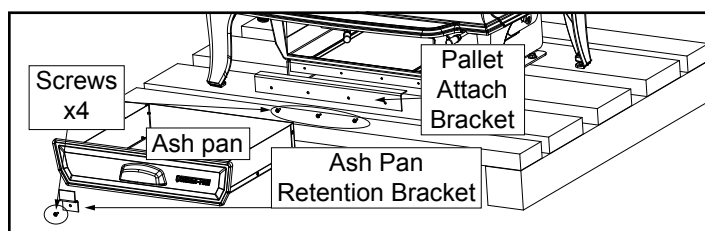

Figure 5.1
2. Using a Phillips screw driver, remove and discard the 4 screws and ash pan retention bracket from front of appliance (**Figure 5.1**).
3. Remove ash pan and set aside (**Figure 5.1**).
4. Remove and discard the pallet attach bracket (**Figure 5.1**).
7. Replace ash pan (**Figure 5.1**).